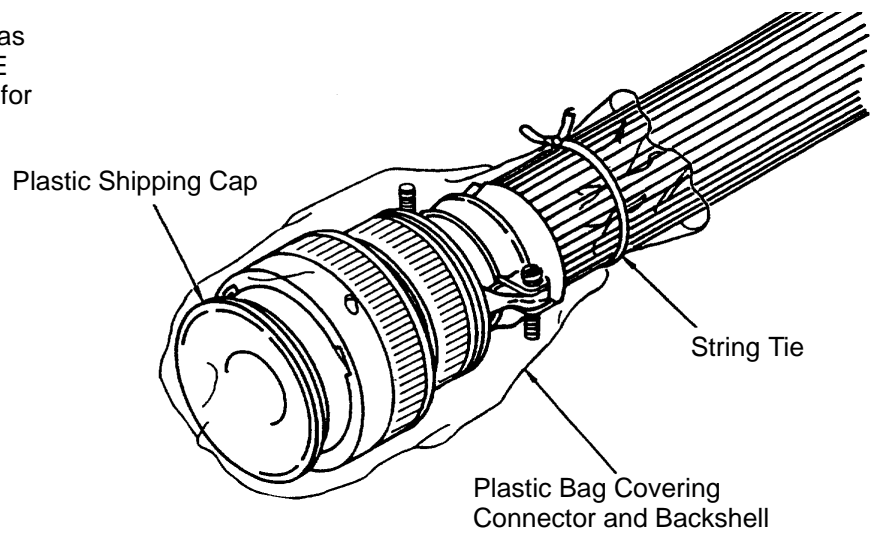

Figure 3. Connector Disconnected Protection
f. When a connector is not removed from the bundle or harness to extract the bundle or harness from the aircraft, protect the connector as shown in Figure 3. Attach connector to the nearest primary support location.